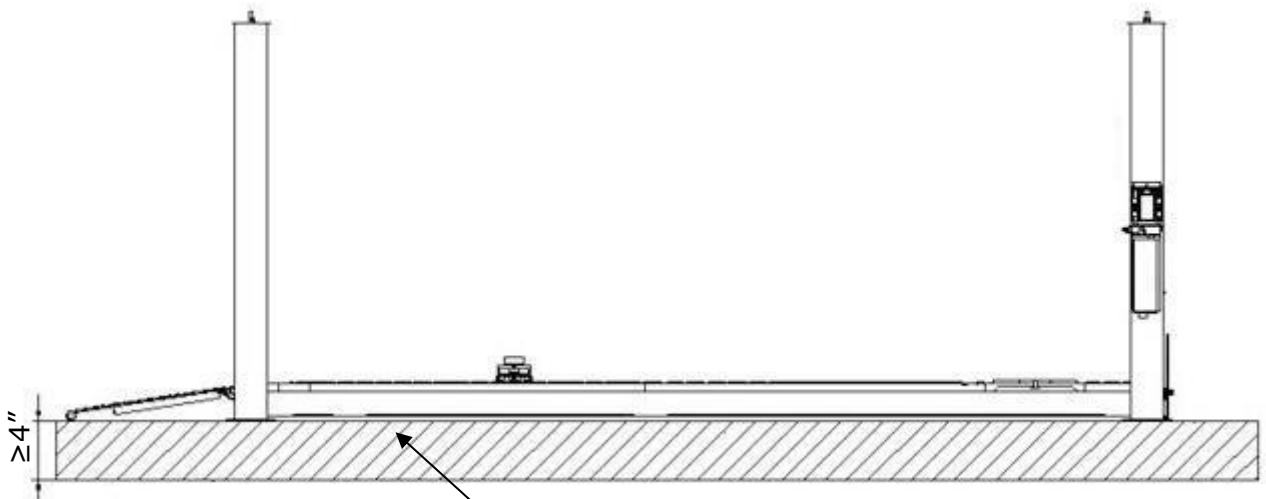

Fig. 4
C. SPECIFICATIONS OF CONCRETE (See Fig. 4)